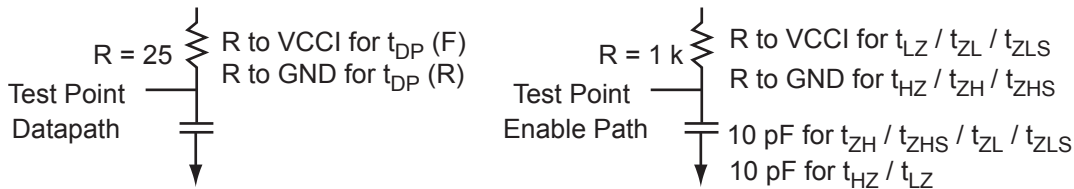

Figure 2-12 • AC Loading
4. Resistance is used to measure I/O propagation delays as defined in PCI specifications. See Figure 2-12 on page 2-49 for connectivity. This resistor is not required during normal operation.
AC loadings are defined per the PCI/PCI-X specifications for the datapath; Microsemi loadings for enable path characterization are described in Figure 2-12.